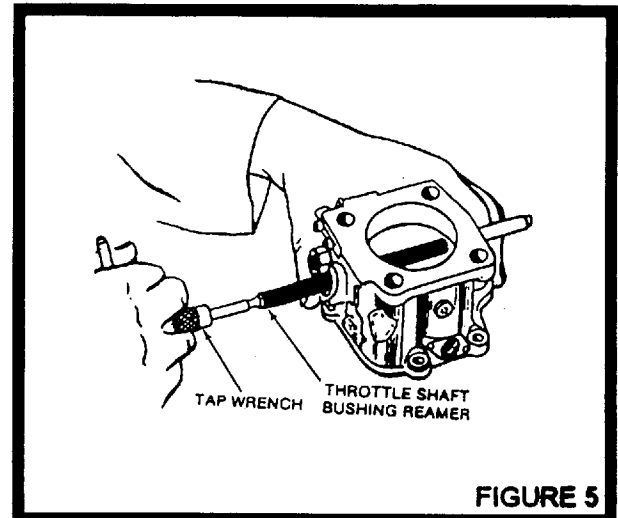

FIGURE 5
- 41) Tool M-516 is also an alignment tool and line reaming should not be necessary. If necessary, use tool M-95. See Figure 5.